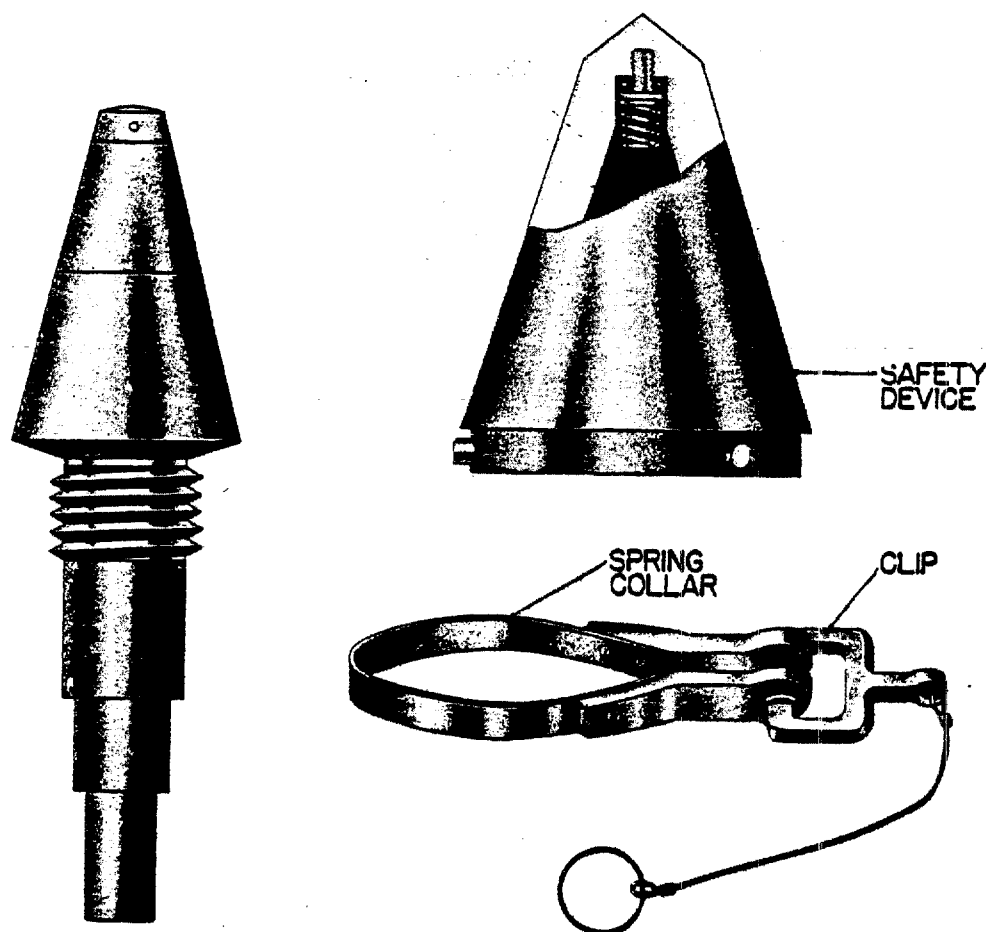

Figure 266 - Nose Impact Fuze R.S.A. Model 1930
3. **Safety device for use with the R. S. A. Fuze 30/45, Model 1930:** This is shown in figure 266. It consists of a single piece of bronzed steel in the shape of a hood. Inside of the apex of the hood is a spring which holds the head of the fuze away from the hood, and assists in the removal of the hood after the bomb is released. The hood is held in the head of the fuze by three spring-loaded pins, which pass through the lower portion of the wall of the hood, and are held in position by a spring collar. When the collar is closed by the clip, the pins are pressed into a groove on an adapter, which screws into the bomb. When the bomb is released, the clip is pulled away, the three pins are free to move, and, with the assistance of the spring, the safety hood falls away from the path of the bomb.